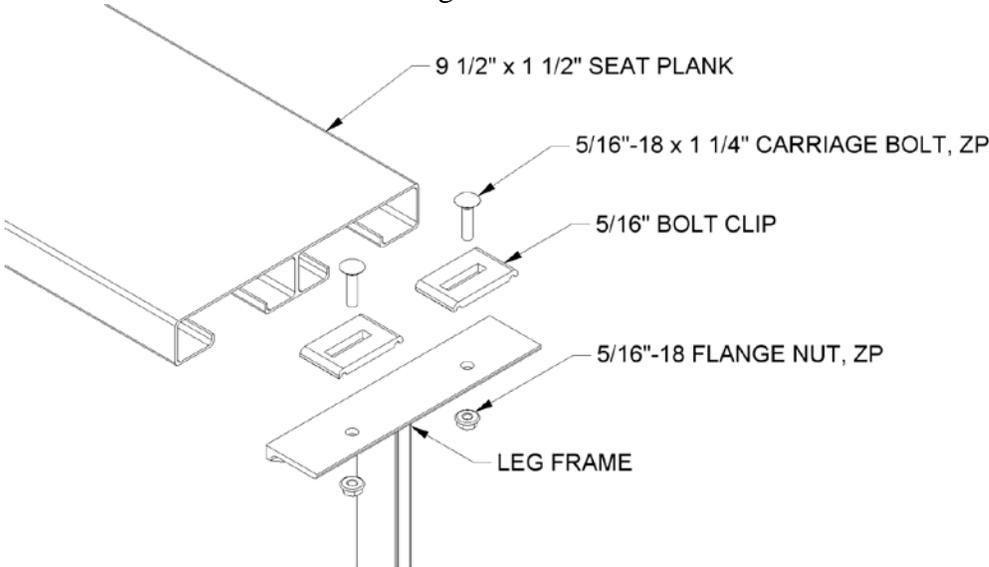
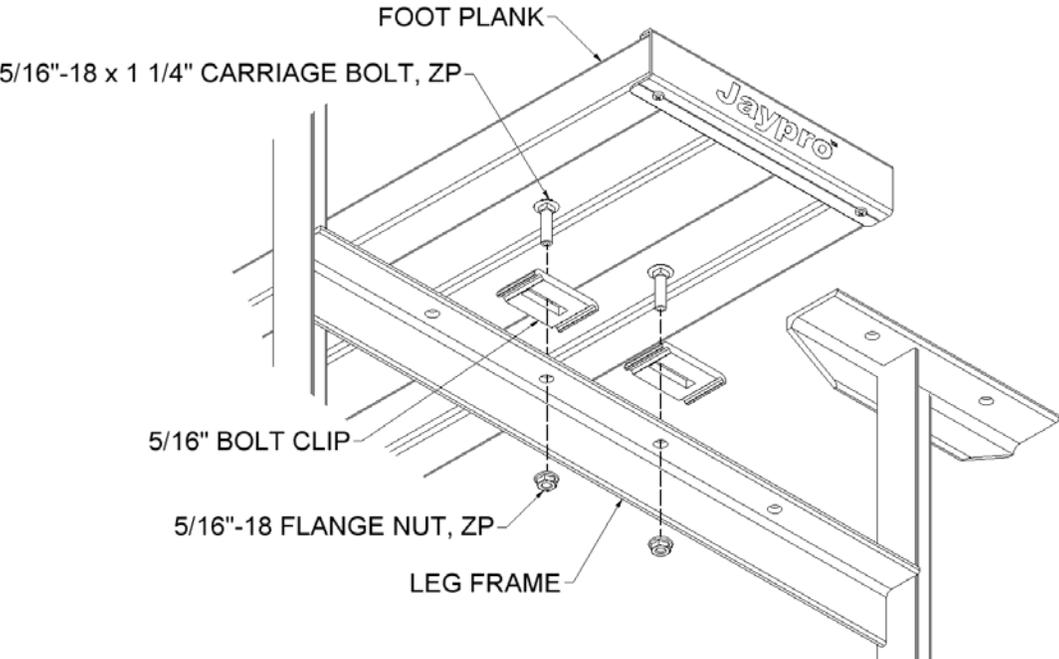
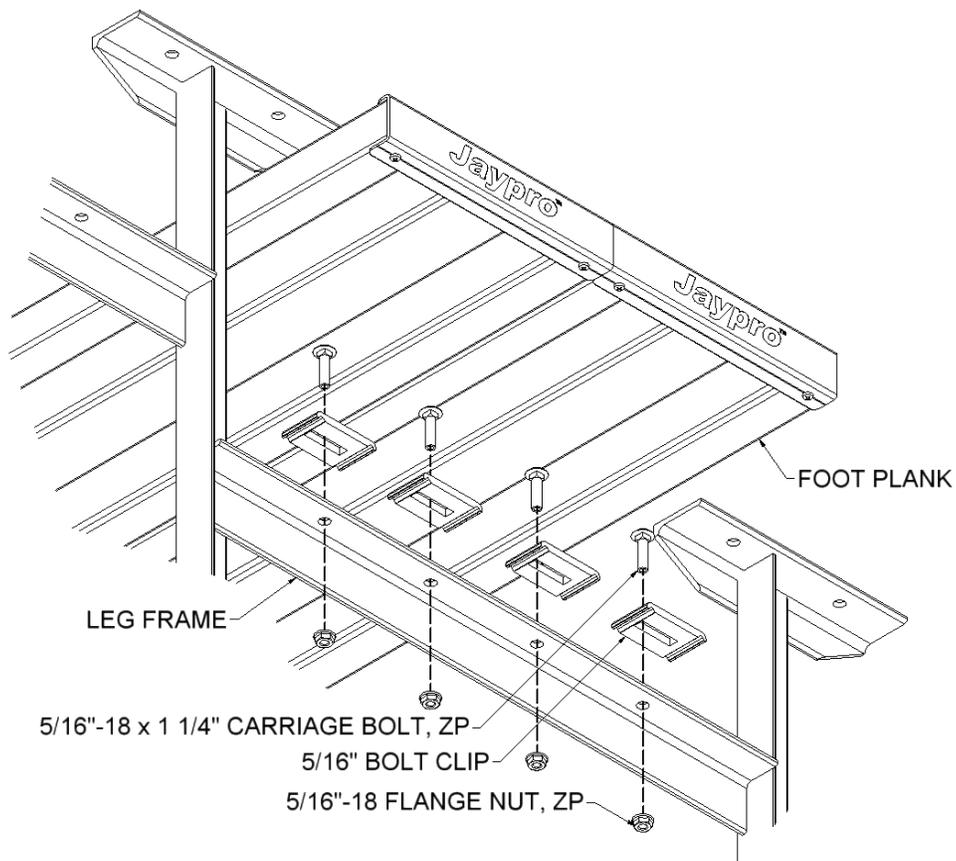

FIGURE: 5
FIGURE: 6
FIGURE: 7
5. Making sure the undercarriage frame is square and plumb, install the seat and foot planks. The seat and foot planks are best installed starting from the front seat and working towards the back. Use the hardware and bolt clip as shown in figure 5. Position planks so they are centered on the frame, with equal amount of overhang on each end. Note that standard bleachers (BLCH-427AL & BLCH-427TRG) have a single foot plank, which is centered on the support frame, see figure 6. Preferred bleachers (BLDP-427AL & BLDP-427TRG) have double foot planks and are installed as shown in figure 7.